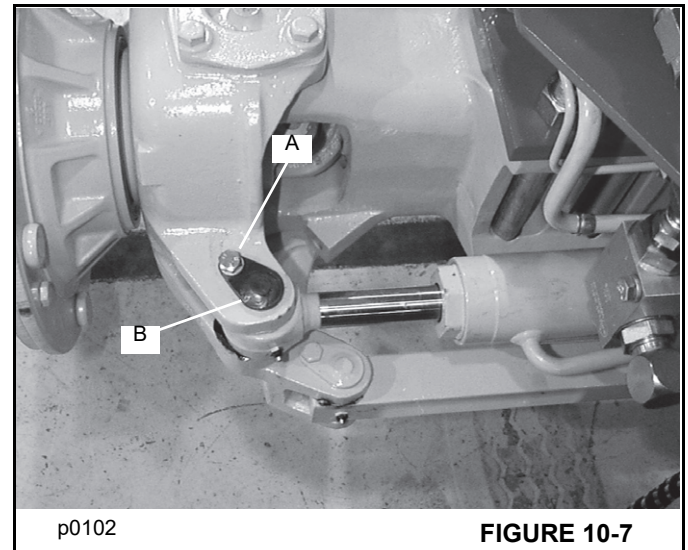

FIGURE 10-7
4. Remove locking bolts (A) Figure 10-7 and pivot pins (B) from both ends of the steering cylinder.